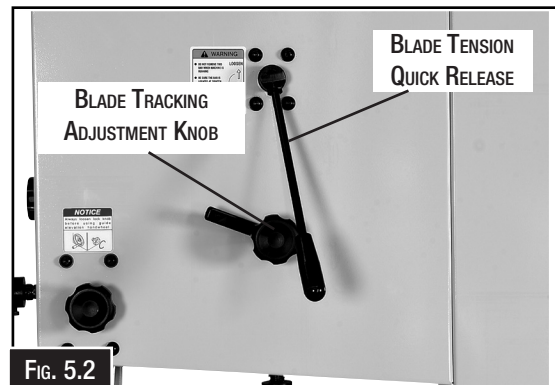

Fig. 5.2
**Blade Tracking Adjustment Knob:** Adjusts the blade tracking. (Fig. 5.2)
**Blade Tension Quick Release:** Quickly tensions or releases the blade without losing its setting. (Fig.5.2)